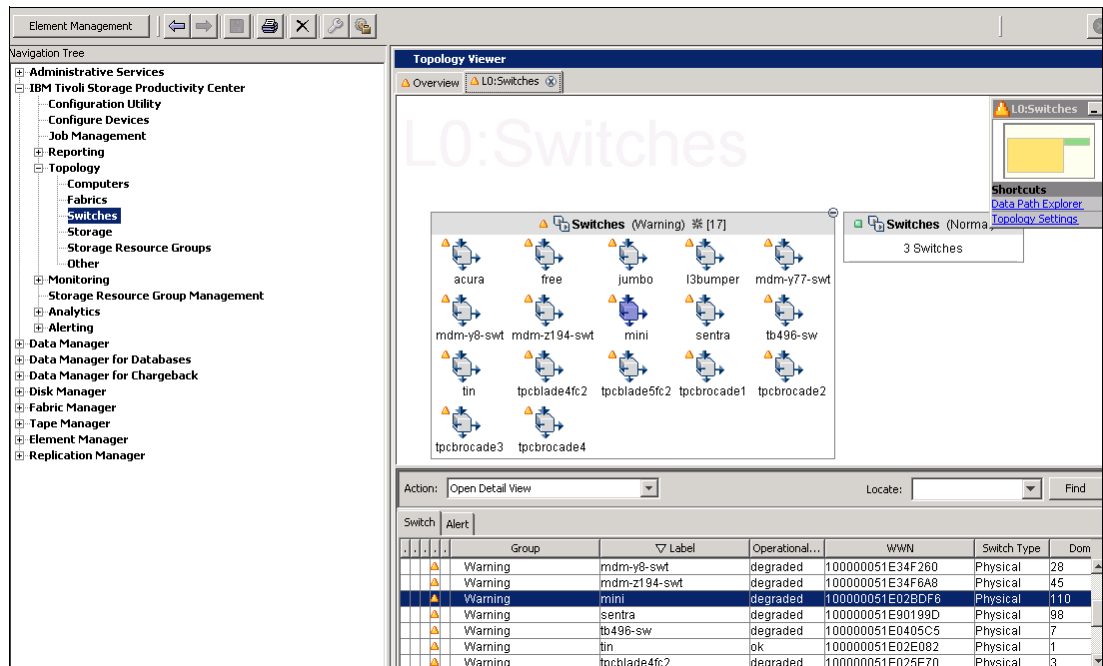

Figure 13-142 Topology Viewer for switches
- a. Click **IBM Tivoli Storage Productivity Center** $\varnothing$ **Topology**. Right-click **Switches**, and select **Expand all Groups**, as shown in the left pane in Figure 13-142 on page 468.
- b. Look for your switch, as shown in the right pane in Figure 13-142 on page 468.